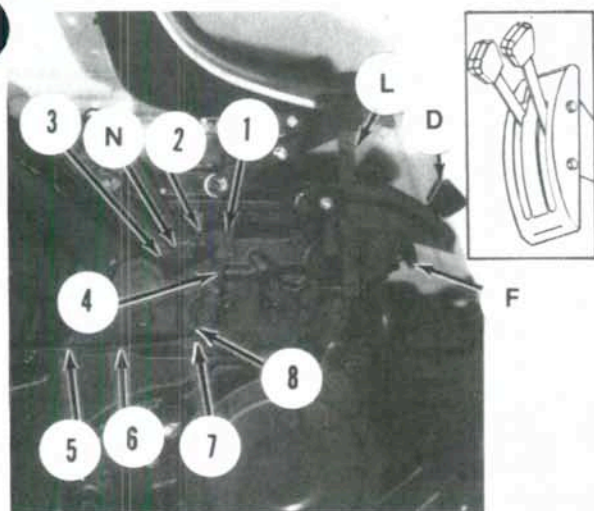

Fig. 268—View of two control lever linkage typical of models equipped with position and draft control. Refer to text for adjustment procedure.
Length of the position control rod (3—Fig. 267 or Fig. 268) must be adjusted correctly to provide proper operation of hitch. If rod is too short, the con-
176. DRAFT CONTROL ROD. After position control rod is adjusted correctly, adjust draft control rod as follows: Move position control lever (L—Fig. 268) to highest lifting position, but not in notch at upper end of quadrant. Move draft control lever (D) to upper end of quadrant slot. Loosen locknut (5) on